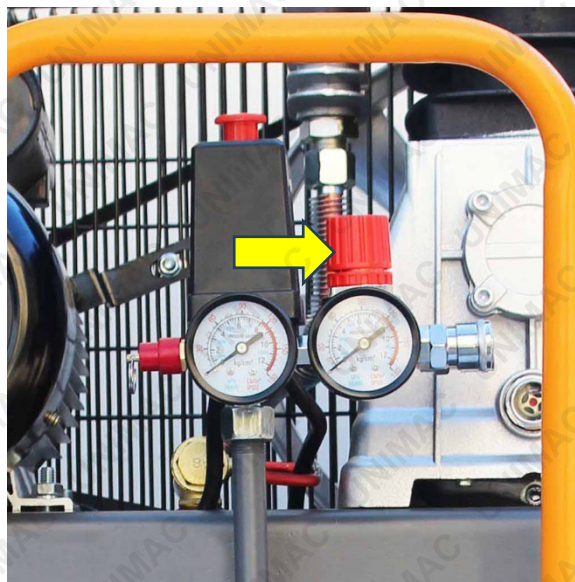

Figure 5: Air control knob
1. Adjust the air control knob, shown in Figure 5, to set the pressure that will be delivered to your tool. Turn the knob clockwise to increase the pressure and counterclockwise to decrease the pressure.